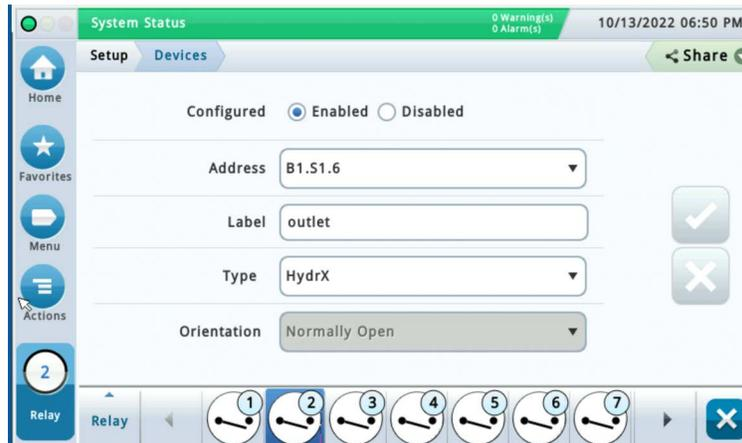

Figure 7. Relay Setup Screen
1. Touch **Menu>Setup>Devices** and touch the Relay button (see Item 4, Figure 1) to open the Relay Setup screen. Select the Relay connected to the HydrX Outlet Valve, e.g., Relay 2 in Figure 7.